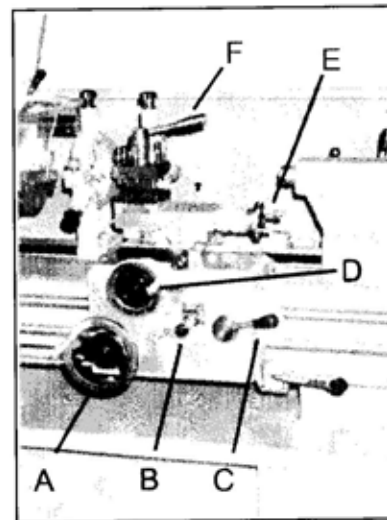

Fig. 14
10. **Longitudinal Traverse Hand Wheel (A, Fig. 14)** – located on the apron assembly. Rotate hand wheel clockwise to move the apron assembly toward the tailstock (right). Rotate the wheel counter-clockwise to move the apron assembly toward the headstock (left).
11. **Feed Selector (B, Fig. 14)** - located in the center front of the apron assembly. Push lever to the left and up activates the crossfeed function. Pull lever to the right and down activates the longitudinal function.
12. **Half Nut Engage Lever (Thread Cutting)** – (C, Fig. 14) located on front of the apron. Move the lever down to engage. Move the lever up to disengage.
13. **Cross Traverse Handwheel (D, Fig. 14)** – located above the apron assembly. Clockwise rotation moves the cross slide toward the rear of the machine.
14. **Compound Rest Traverse Handwheel (E, Fig. 14)** – Located on the end of the compound slide. Rotate clockwise to move or position.
15. **Tool Post Clamping Lever (F, Fig. 14)** – located on top of the tool post. Rotate counter-clockwise to loosen and clockwise to tighten.